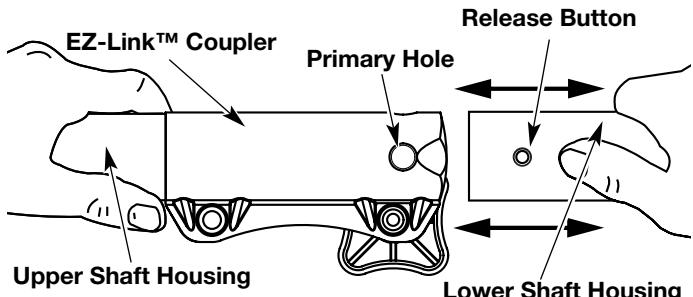

Fig. 15
2. While firmly holding the add-on, push it straight into the EZ-Link™ coupler (Fig. 15).